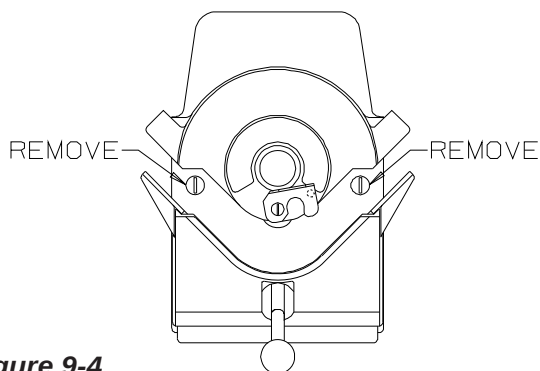

Figure 9-4
3. Remove the two mounting screws located inside the hose cavity. (See figure 9-4)